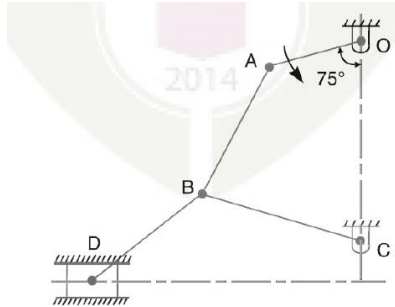

Figure 2
19. In the figure 2 given below the angular velocity of the crank OA is 600 r.p.m. Determine the linear velocity of the slider and angular velocity of all other links. The dimensions various links are: OA=28 mm; AB = 44 mm; BC = 49 mm and BD = 46